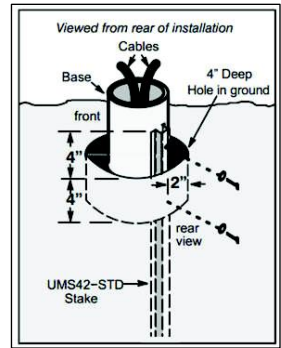

Figure 1 Stake Mount, Round Base
1. Remove the dome and backboard or bracket from the pedestal and set them aside for later use. If not already installed, seat the drop wire channel into the stays (tabs) inside the base. The top of the channel should be pushed up against the stops near the top lip of the base. Insert the foam plug into the top of the channel, leaving 1/3 to 1/2 of the plug positioned above the top of the channel (Figure 1).
4. **STAKE MOUNT (round or rehab base):** Position the mounting stake inside the line of the cable with the base facing out. Drive the stake until approximately 4" remain above the final grade level. Attach the base to the stake (Figure 1).